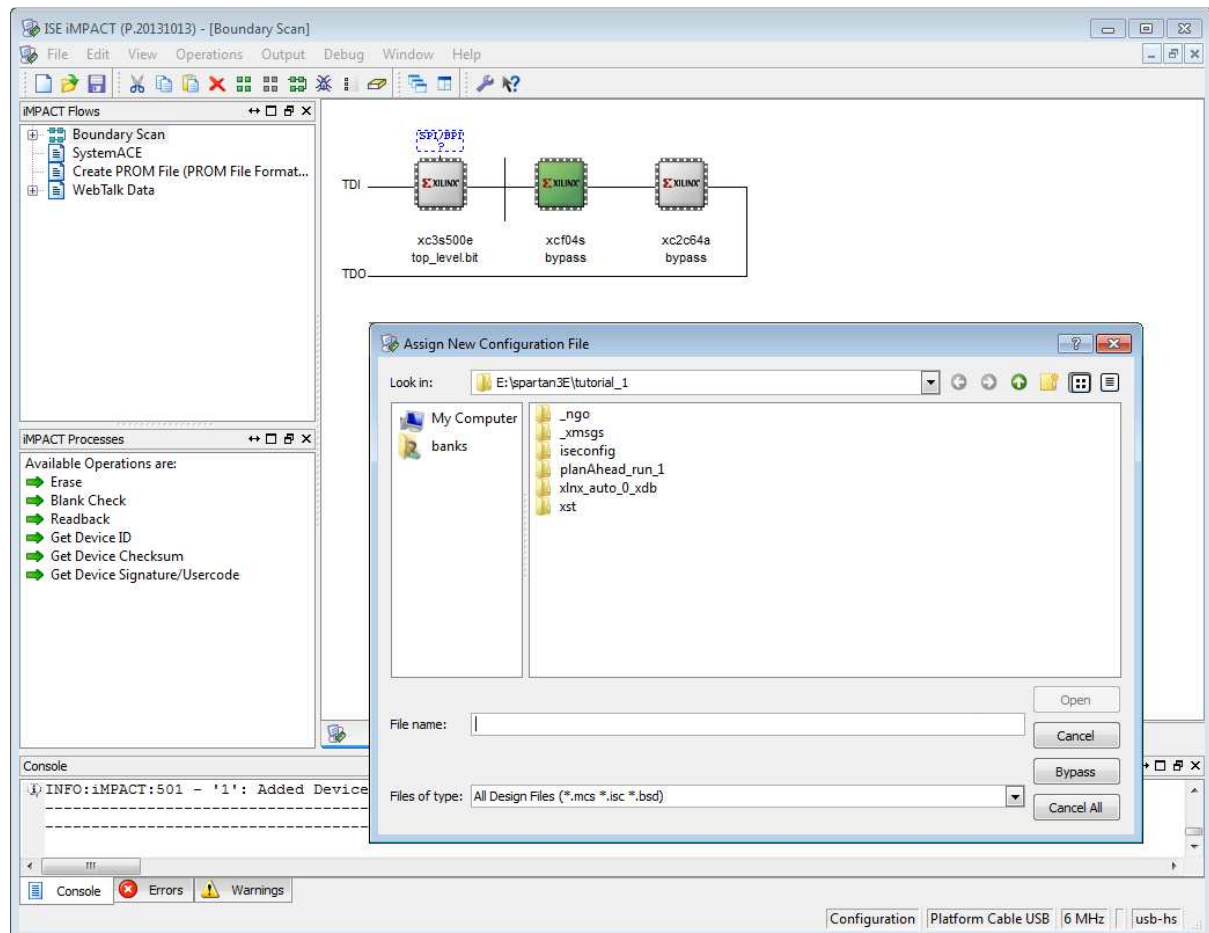

Figure 3.35: iMPACT window, bypassing the xcf04s.
10. The **Assign New Configuration File** window will appear again (Figure 3.35). In this case click **Bypass**. This ensures that the xcf04s is bypassed.